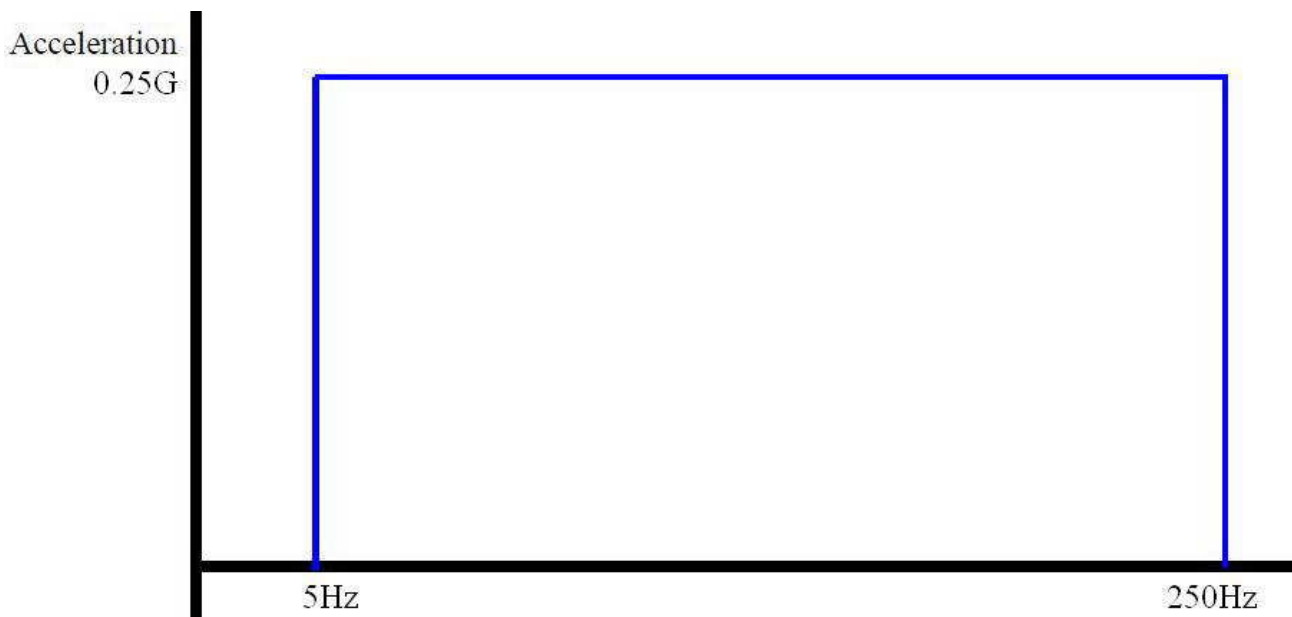

Figure 1.06.1.01 Product operating vibration test curve
9. Test Curve Figure 1.06.1.01